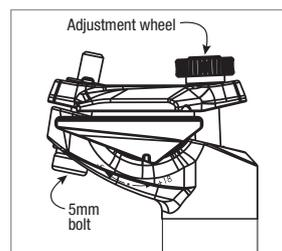

Figure 4
1. Loosen both the adjustment wheel at the top of the saddle rail clamp and the 5mm bolt below the saddle rail clamp enough to allow saddle installation (Fig.4).